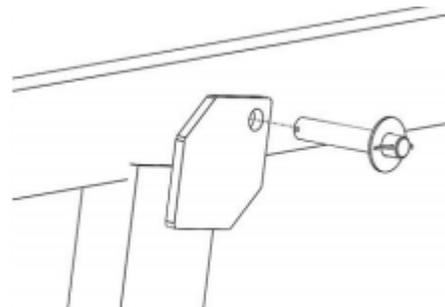

Figure 17
2. Insert one (1) 1/8" Cotter Pin into one (1) 1" Hinge Pin, bending the tines of the Cotter Pin outward and apart, securing the Cotter Pin within the Hinge Pin.
4. Insert the Hinge Pin through the hinge plate as shown in Figure 17.